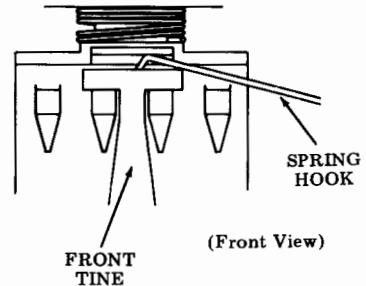

Fig. 9—Front Tine Disengagement
- (3) Continue applying upward pressure to the RETURN keytop and disengage the front tine from housing using a spring hook. Remove keytop with housing from channel (Fig. 9).